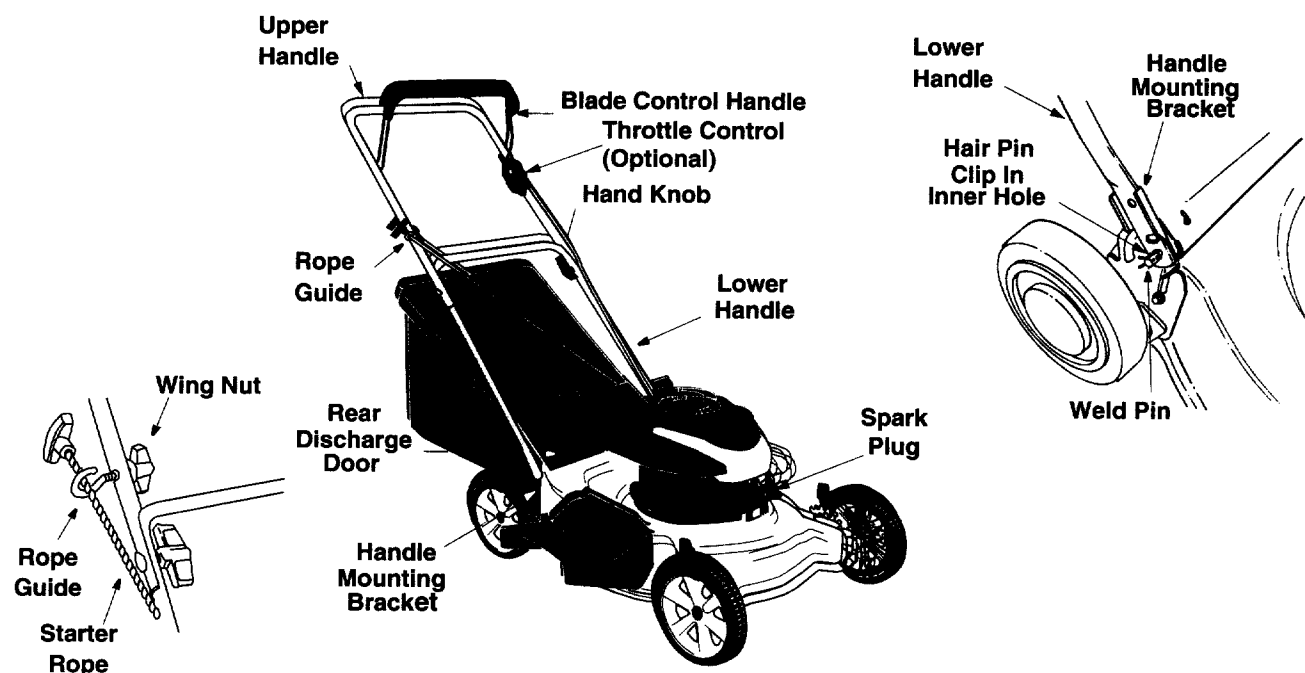

Figure 4
2. Pull up and back on the upper handle to raise the handle into the operating position. Make certain the lower handle is seated securely into the handle mounting brackets. Tighten the hand knobs on each side of the handle (carriage bolts must be seated properly into the handle). See Figure 4.
3. Remove the hairpin clips from the outer hole in the weld pins on the handle mounting brackets. Using a pair of pliers, squeeze one leg of the lower handle against the handle mounting bracket. Insert the hairpin clip into the inner hole on the weld pin. Repeat on other side. See Figure 4.
5. With the spark plug wire disconnected and grounded, hold the blade control handle against the upper handle, and pull the starter rope out of the engine. Release the blade control handle. Slip the starter rope into the rope guide. Tighten the wing nut. See Figure 4.